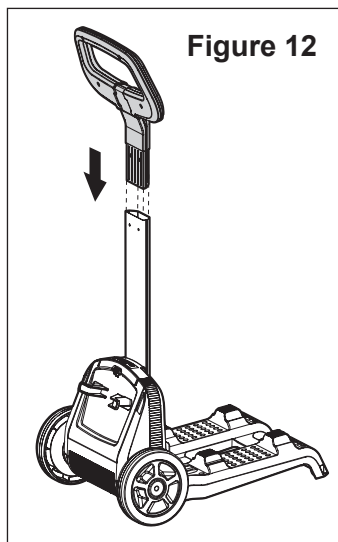

Figure 12
1. Insert the caddy handle into the handle support. See **Figure 12**.